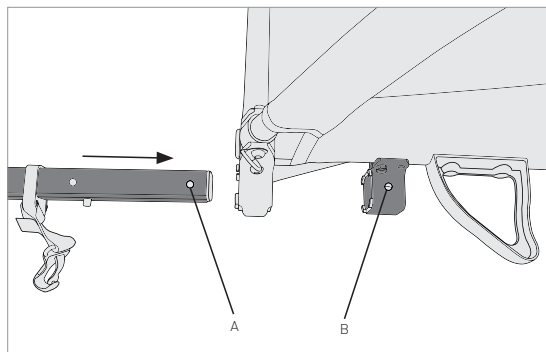

Figure 9
1. Slide the tow bar into the tow bar receivers until hole A is aligned with hole B (Figure 9). The red safety strap bracket should be flush with the front of the tow bar mount.